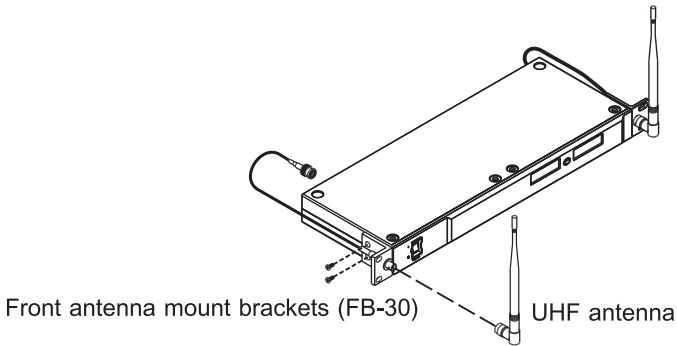

Fig. 5
- (C) MIPRO accessory, FB-30, front antenna mount brackets (not included) can also be installed at the front of the receiver to improve antenna reception, see Fig. 5.